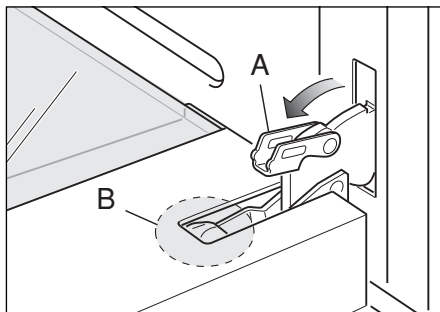
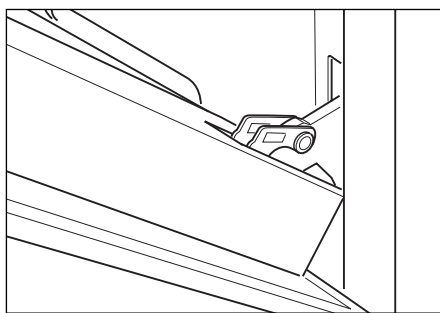

Fig.51b
Fig.51c
- Fully open the lever "A" on the left and right hinges (Fig 51b).
- Gently close the door (Fig. 51c) until the left and right hinges are hooked to part "B" of the door (Fig. 51b).